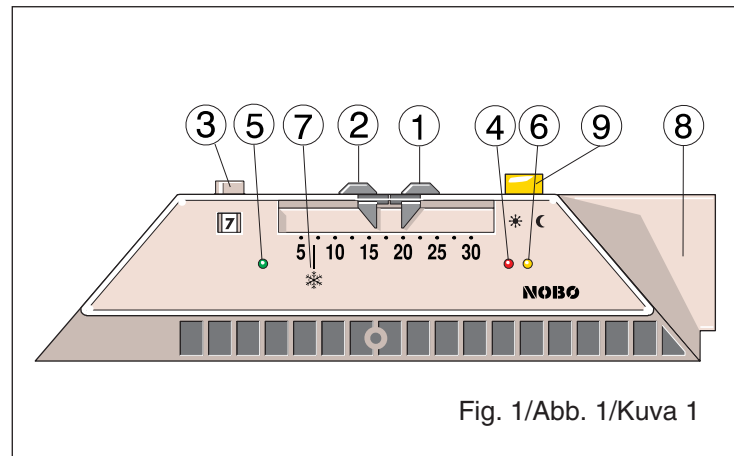

Fig. 1/Abb. 1/Kuva 1
3. Servicepanelen (fig. 1)
3. Control panel (Fig. 1)